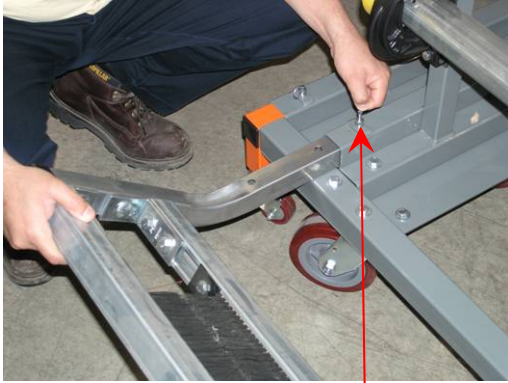

Fig 18.1
- 18.2 At the same time Insert both Cleaning Brush arms into the Rack Frame as shown in **Fig 18.1**.
- 18.3 Pull up on the Retractable Position Lock to allow the Brush arm to slide into the Rack frame as shown in **Fig. 18.1 & 18.2**.